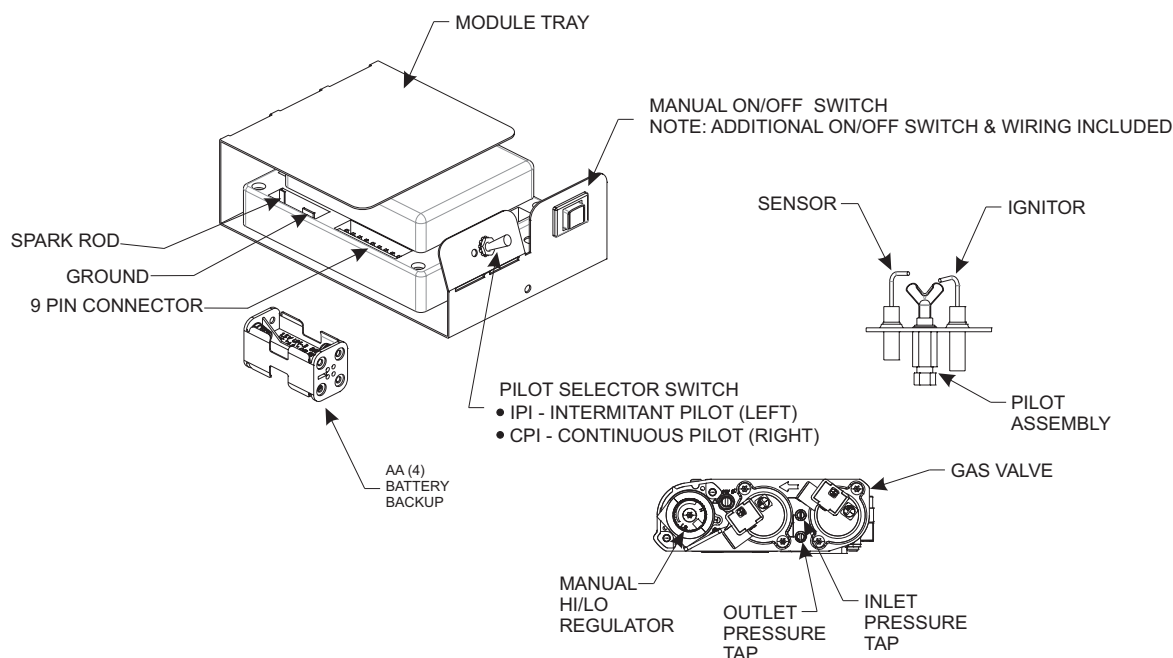

Figure 75
See Figure 75.
3. The gas valve has inlet and outlet pressure taps as shown in Figure 75. Refer to pages 8 and 17 for gas pressure requirements.
NOTICE: The gas control has a manual HI/LO flame adjustment knob (regulator) that allows you to increase or decrease the height of the burner flame. See Figure 75. Rotate the HI/LO knob counterclockwise to "HI" to increase the flame height, and clockwise to "LO" to decrease the flame height.
To connect the remote receiver to the appliance, first disconnect the ON/OFF switch wires from the white and green wire connectors and connect the wires from the remote receiver to the green and white wire connectors. See Figure 75.